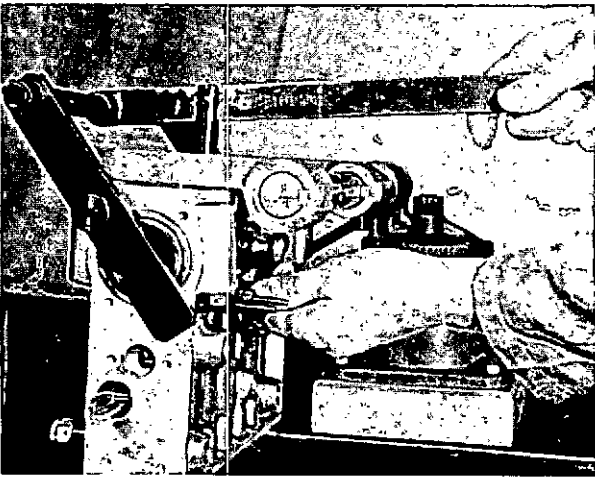

Fig. 8 Unloading plunger springs.
10. Invert the pump, fit element spring compressing tool 1 688 110 027, together with pivot bar 1 683 001 003 and, on each tappet in turn, push the roller down, remove the tappet holder and unload the plunger spring (fig. 8).